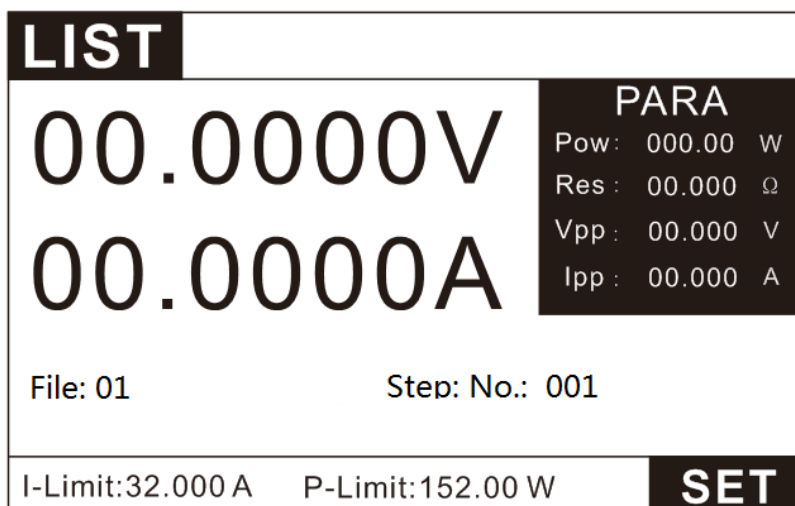

Figure 3.5 LIST mode test Page
2. In Figure 3.5, press the key **SET** to enter the setting interface, as shown in Figure 3.6.